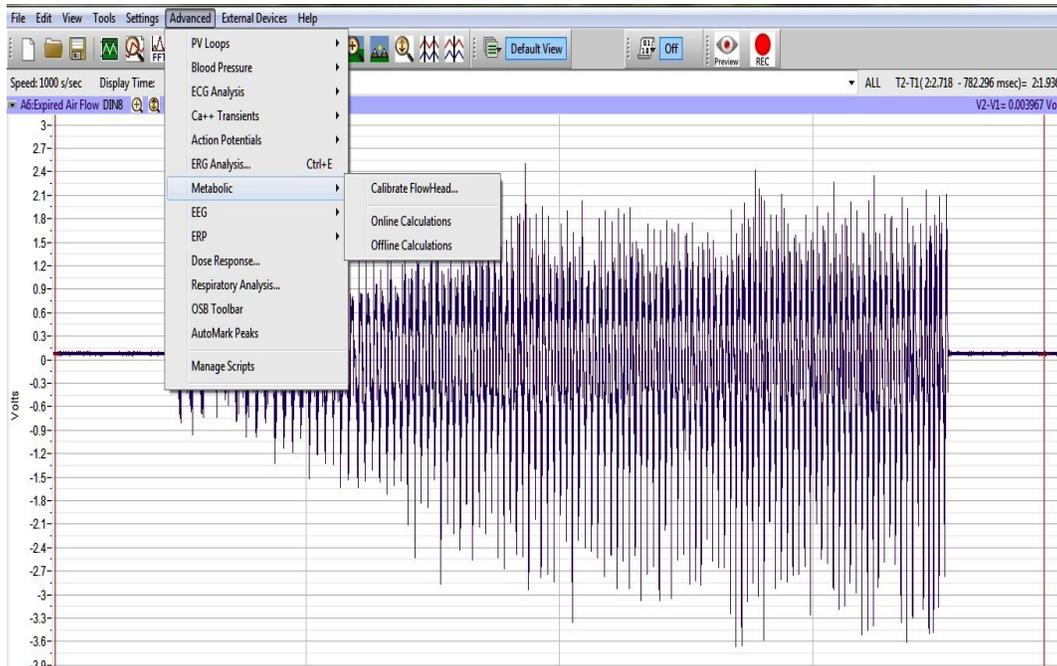

Figure HE-4-S20: Calibrate flow head dialog window.
24. In the new window that opens (Figure HE-4-S22), enter these values: